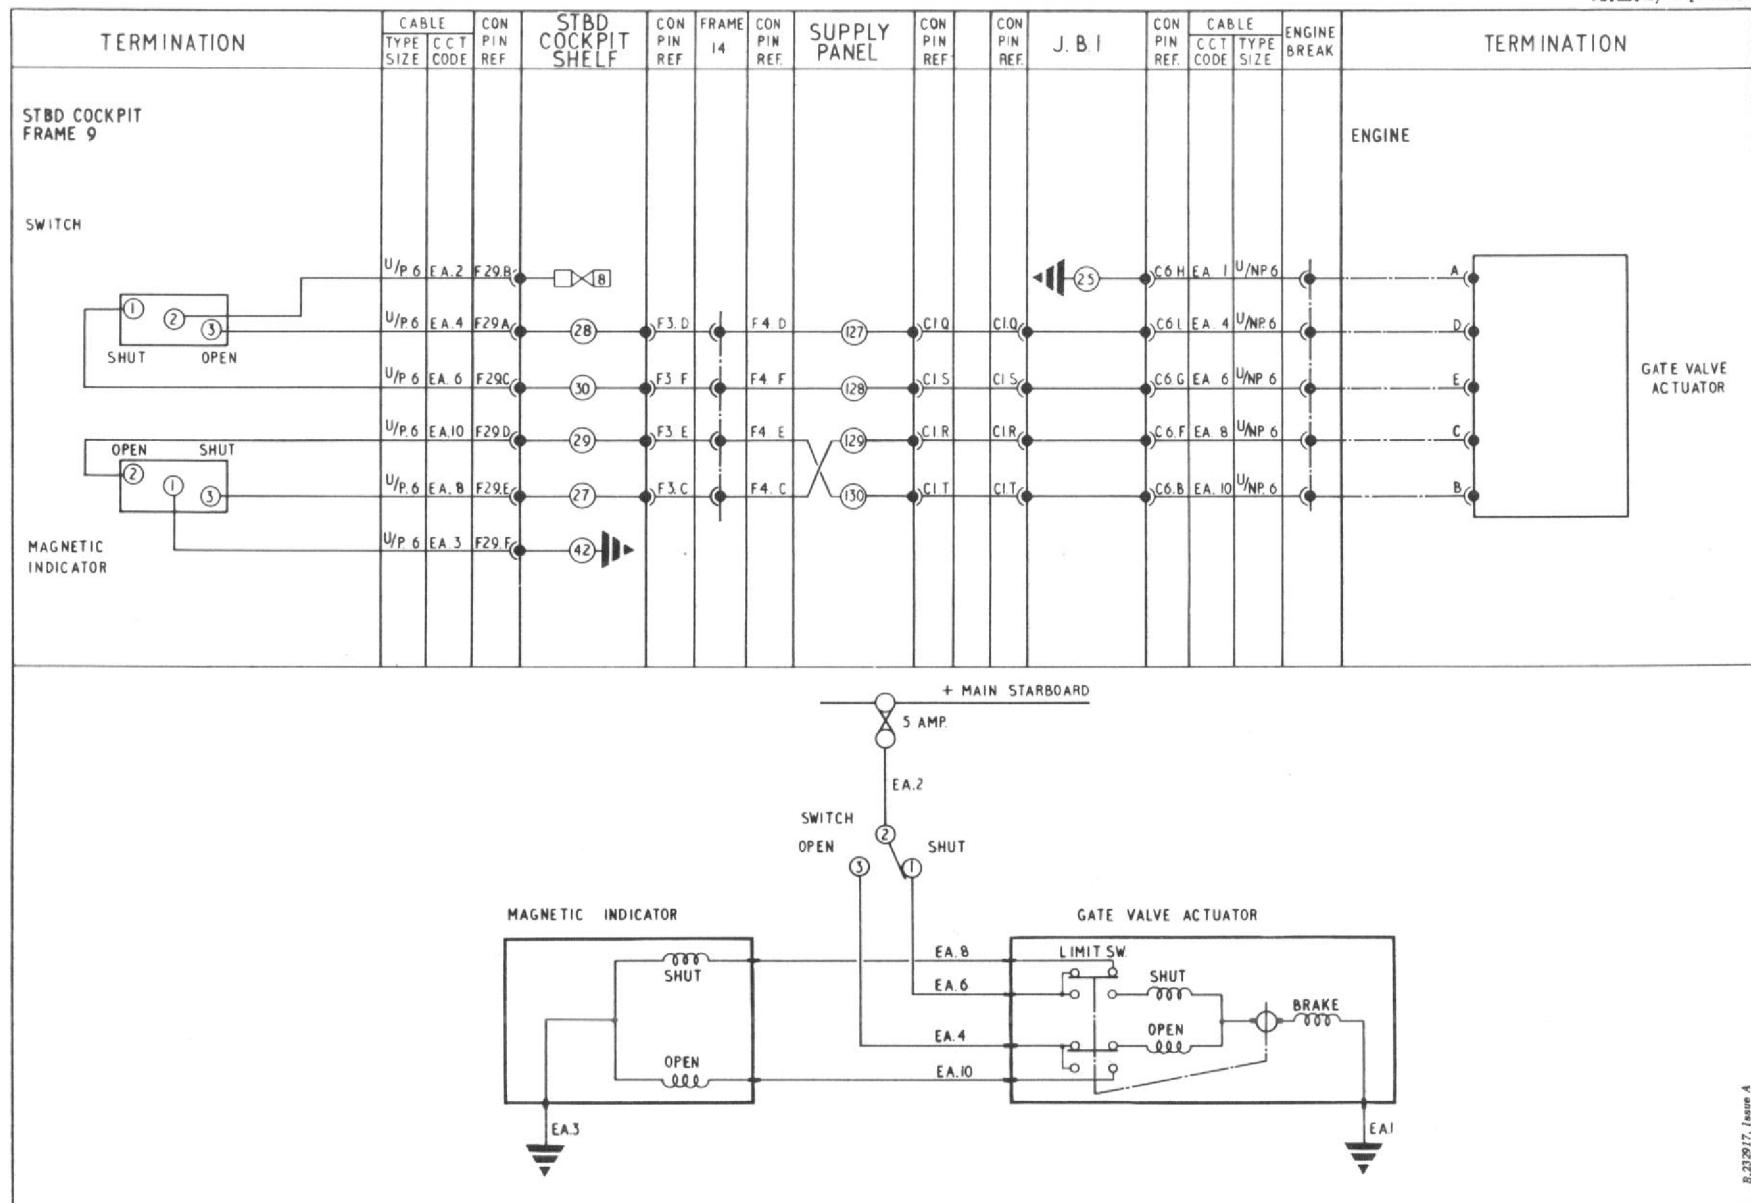

Fig. 1. Engine anti-icing (routeing and theoretical)
3. The diagram of the circuit (fig.1) shows conditions when the control switch is in the SHUT position. The gate valve actuator has operated to shut the valve. The actuator shut limit switch contacts have changed over to break the supply to the actuator and complete the supply to the 'shut' solenoid of the magnetic indicator to indicate valve SHUT. When the control switch is set to OPEN, both solenoids of the magnetic indicator are de-energized and current is fed from the